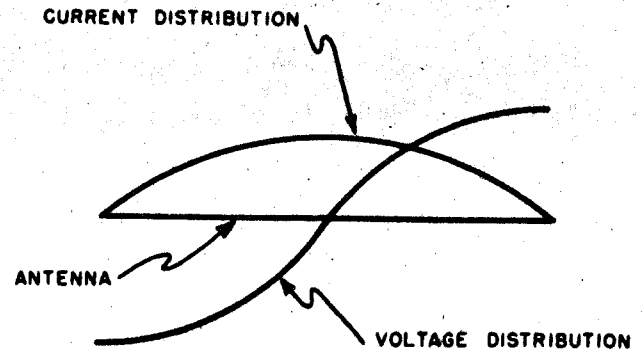

Figure 2-1. Current and Voltage Distribution on a Half-Wave Antenna
b. BASIC HALF-WAVE ANTENNA.—In a half-wave antenna current is always maximum at the center and minimum at the ends, while voltage is minimum at the center and maximum at the ends (figure 2-1). Impedance is minimum at the center and maximum at the ends. The current distribution in the antenna is always the same regardless of the amount of current flow, but the amplitude of the current at any point on the antenna varies with the amplitude of signal voltage.